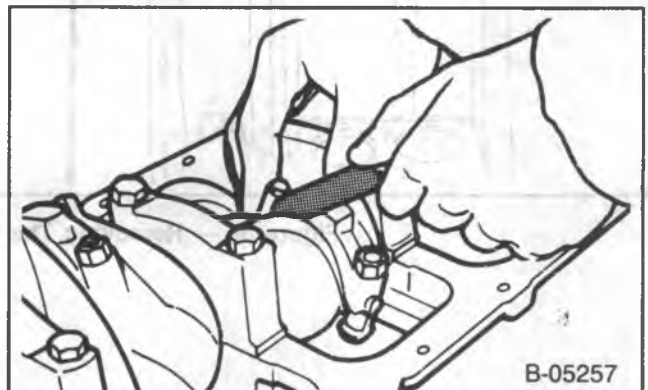

Figure 34 — Measuring Connecting Rod Side Clearance
- Connecting rod side clearance. Use a feeler gage between the connecting rod and crankshaft (figure 34). The correct clearance is shown in "Specifications" at the end of this section.